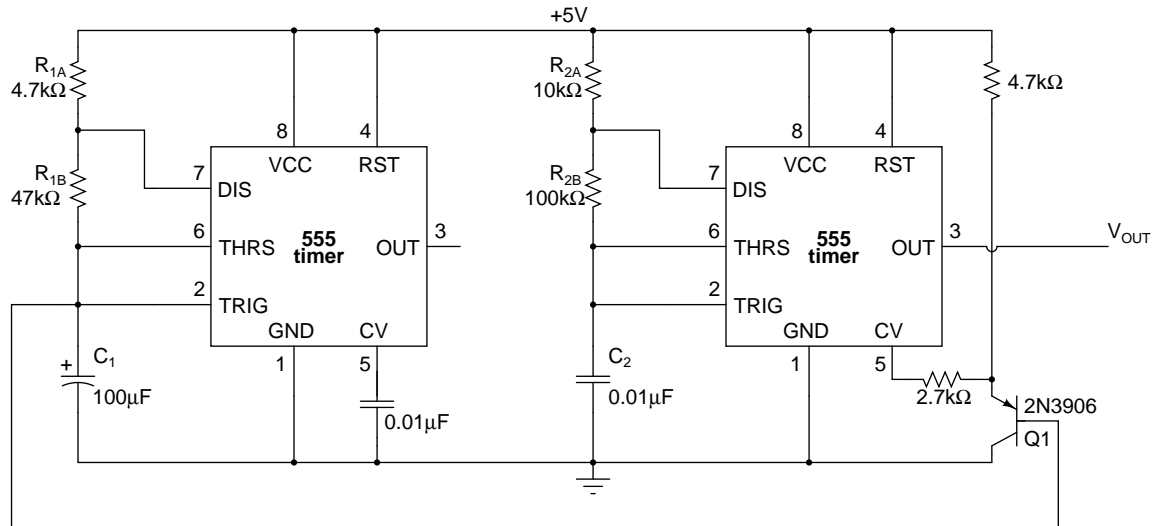

Figure 2.6: Circuit generating wailing alarm siren sound.
Figure 2.6 shows a circuit that generates a wailing alarm siren sound of the type used in some police vehicles. The sound frequency is being modulated by changing the control voltage (CV) input of the timer on the right. A loudspeaker would be connected to the output  $V_{OUT}$  along with a series capacitor.
The output of the circuit is in 0-5V range. Build a simple voltage divider at the output of the circuit to transform the signal to  $\pm 1V$  range (you will also need a voltage source to shift the signal). Move OUT node label to the new output location with  $\pm 1V$  signal (in real life you could drive a speaker connected through a series capacitor directly from the output in Figure 2.6). Simulate the circuit for about 15s and listen to the sound that it produces by playing the .wav file (it will appear in the same directory as your .asc file with the schematic). Try few different values of C1 in the range from 1 to  $100\mu F$ . Observe the change in the sound by recording and playing different .wav files.